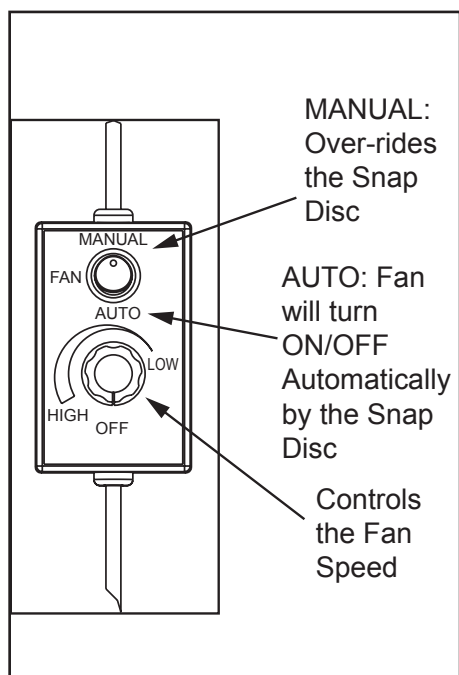

Figure 13.2
The blower can be plugged in and turned on right away. The blower is turned on and off by a snap disc. When your appliance has reached a certain temperature the blower will turn on and when your appliance has cooled down to a certain temperature it will turn off. Switch on blower control must be set to auto for this feature to work (Figure 13.2).
2. The blower is equipped with a speed control. Adjust the fan speed by turning the speed control clockwise to "Low" or counterclockwise to "High". **Figure 13.2.**